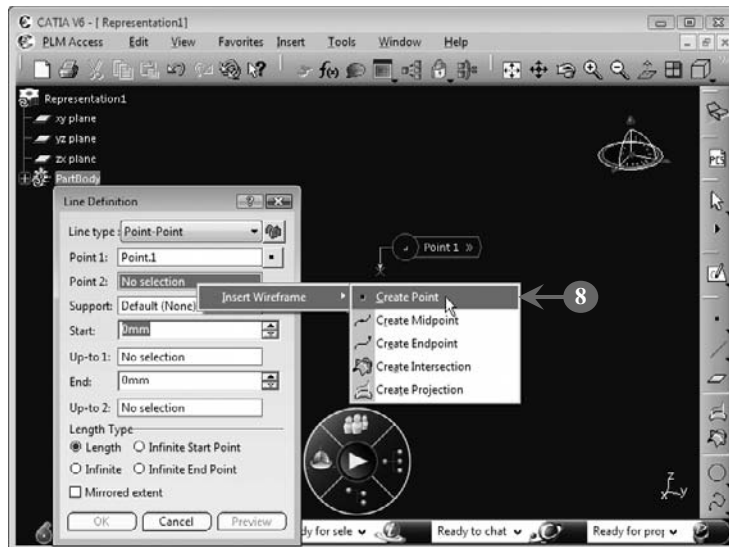

FIGURE 5.10
The starting point for the line is added to the **Point 1** box (Figure 5.10).
8. Right-click inside the **Point 2** box and select the **Insert Wireframe > Create Point** option from the context menu, as shown in Figure 5.10: